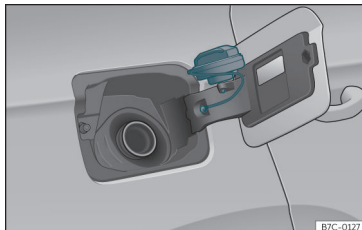

Fig. 48 Fuel tank flap with tank cap attached.
- Place it in the space on the hinge of the open flap >>> Fig. 48.